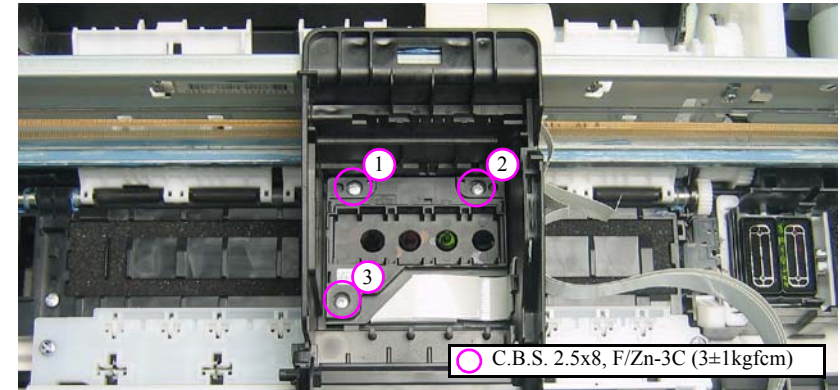

Figure 4-41. Removing the Printhead (1)
- Tighten the screws in the order given in Figure 4-41.